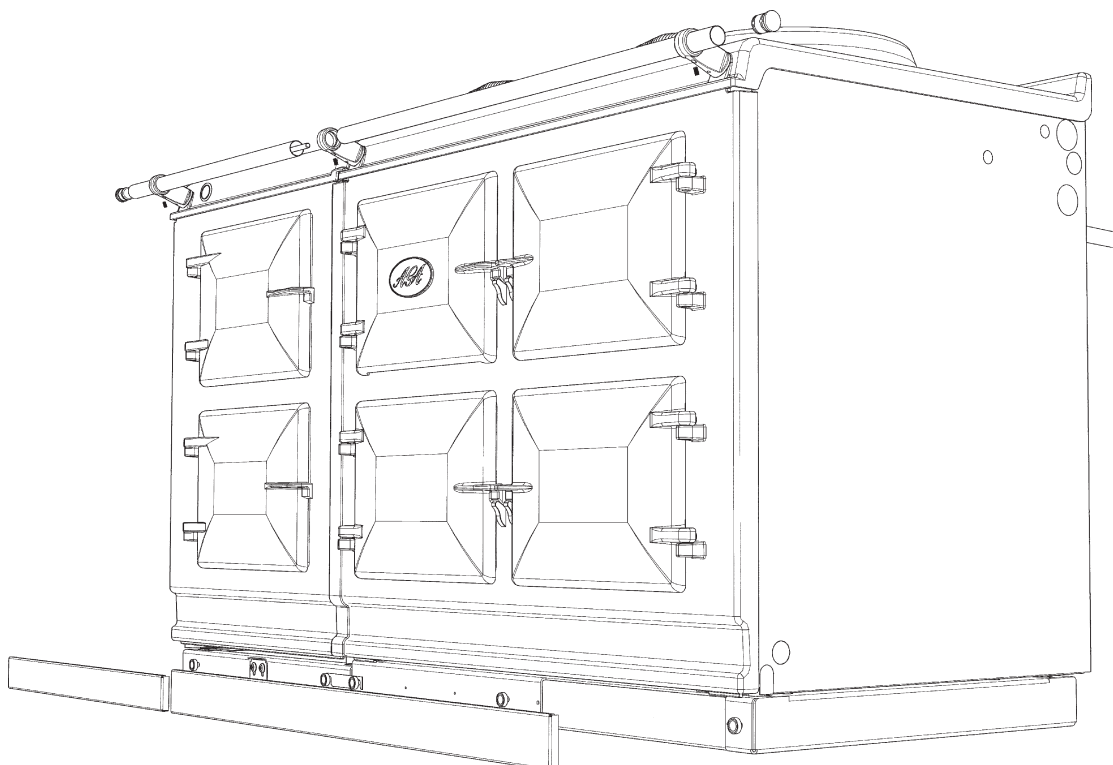

Fig. 17.12
11. On 5 oven appliances, fit allthread stud into the insert located in the one end of the handrail, then feed the handrail through the bracket (ensuring that the allthread stud is protruding from the right hand side of the hotcupboard handrail) and screw the handrails together. (Fig. 17.12).
- 14.** Finally, fit the plinth fascia to the magnets on the front of the plinth, making sure that on 5 oven appliances the right hand side of the module plinth fascia sits against the left hand side of the AGA R7 100 plinth fascia leaving no gap between. Make sure that the plinth fascias are centrally located and do not overhang either appliance. (**Fig. 17.12**)